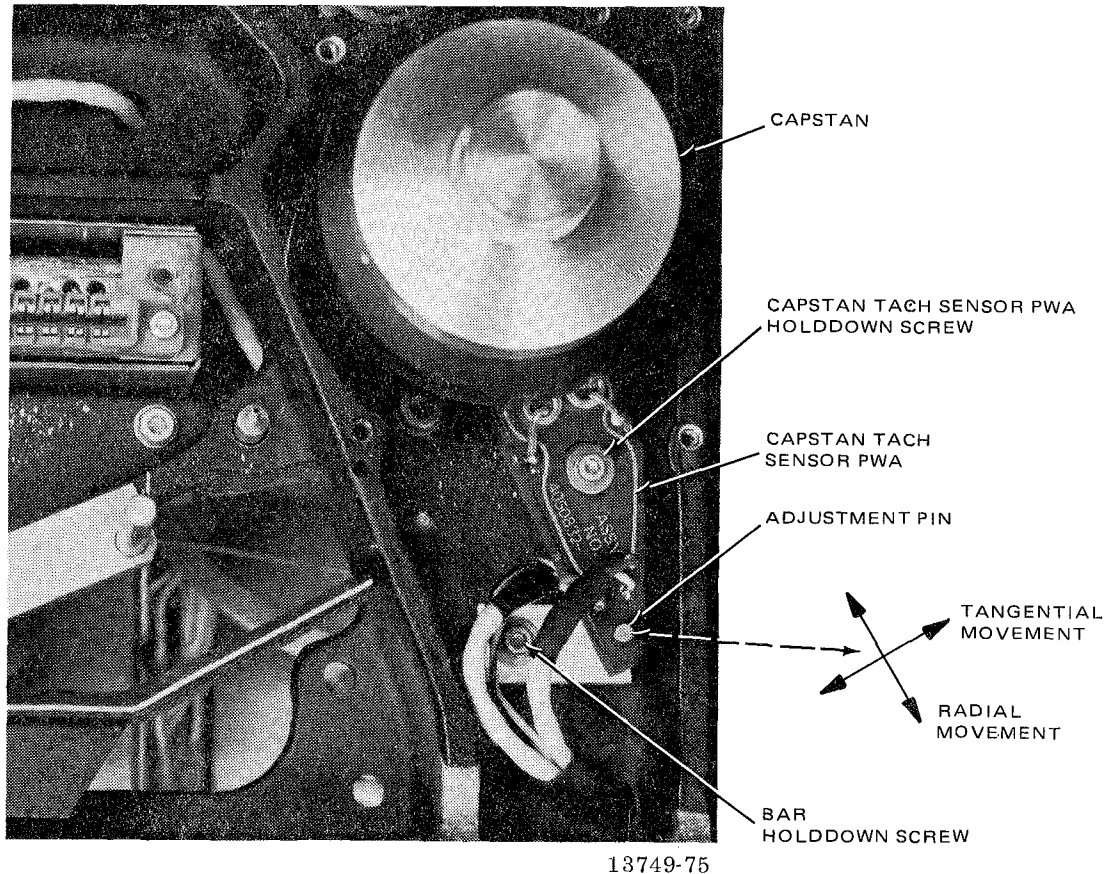

Figure 2. Tach Sensor PWA
4. Loosen both screws holding tach sensor assembly (refer to Figure 2).
7. Move sensor tangentially for maximum indication on scope (refer to Figure 2).
10. Move tach sensor radially for a 90° phase difference in the two signals (refer to Figure 2).
17. Place transport in fast forward. While observing scope, tighten first the screw on the bar, then the one on the PWA, noting that the phase does not change appreciably. (Refer to Figure 2.)